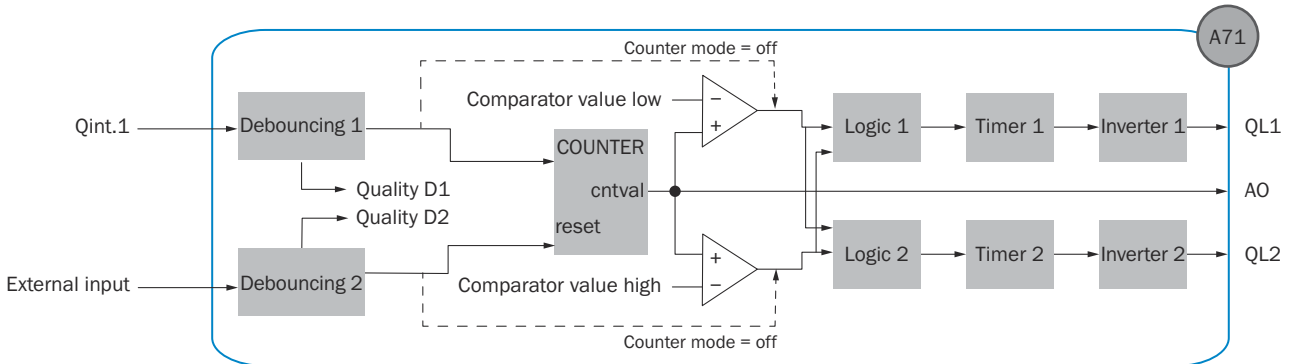

Figure 7: Logical principle of operation A71
**Counter mode** defines whether the counter value **cntval** is increased or decreased by one with each rising edge from **Debouncing 1 Modul**. When **Counter mode** = OFF: Signal pulses are routed past the counter and comparator module - see figure 7, page 46; available from **Counter version 1.2.0**.